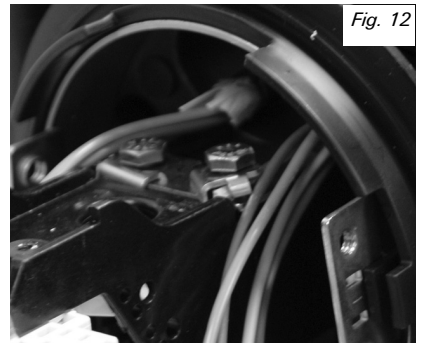

Fig. 12
5. For the oval port, loosen the strength member bolts, guide the strength members under the square strength member washers and tighten. (Figure 12)